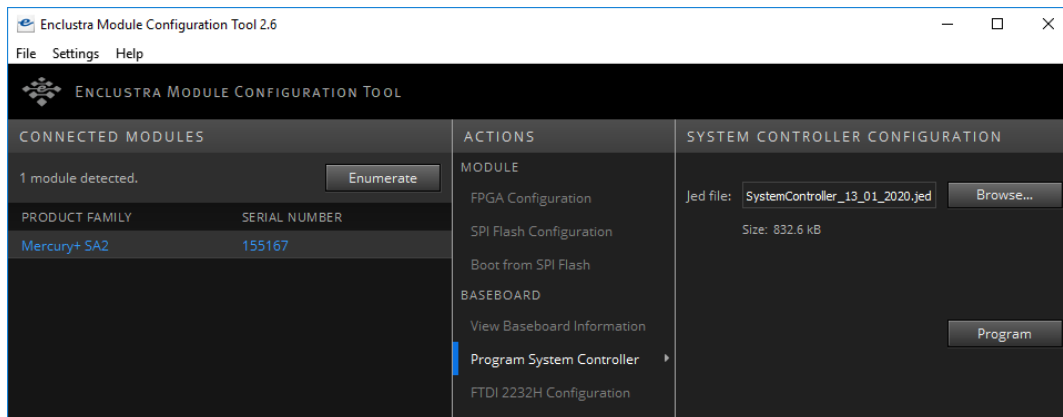

Figure 4: Upgrade using MCT
- Select "Program System Controller" as action and enter the JEDEC programming file, as shown in figure 4